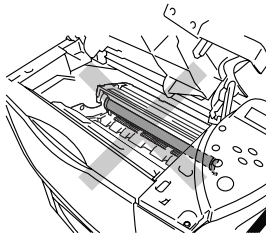
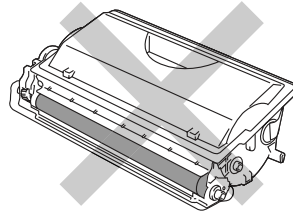

Figure 5-3
Figure 5-4
- Do not touch the shaded parts shown in Figure 5-3 and Figure 5-4.